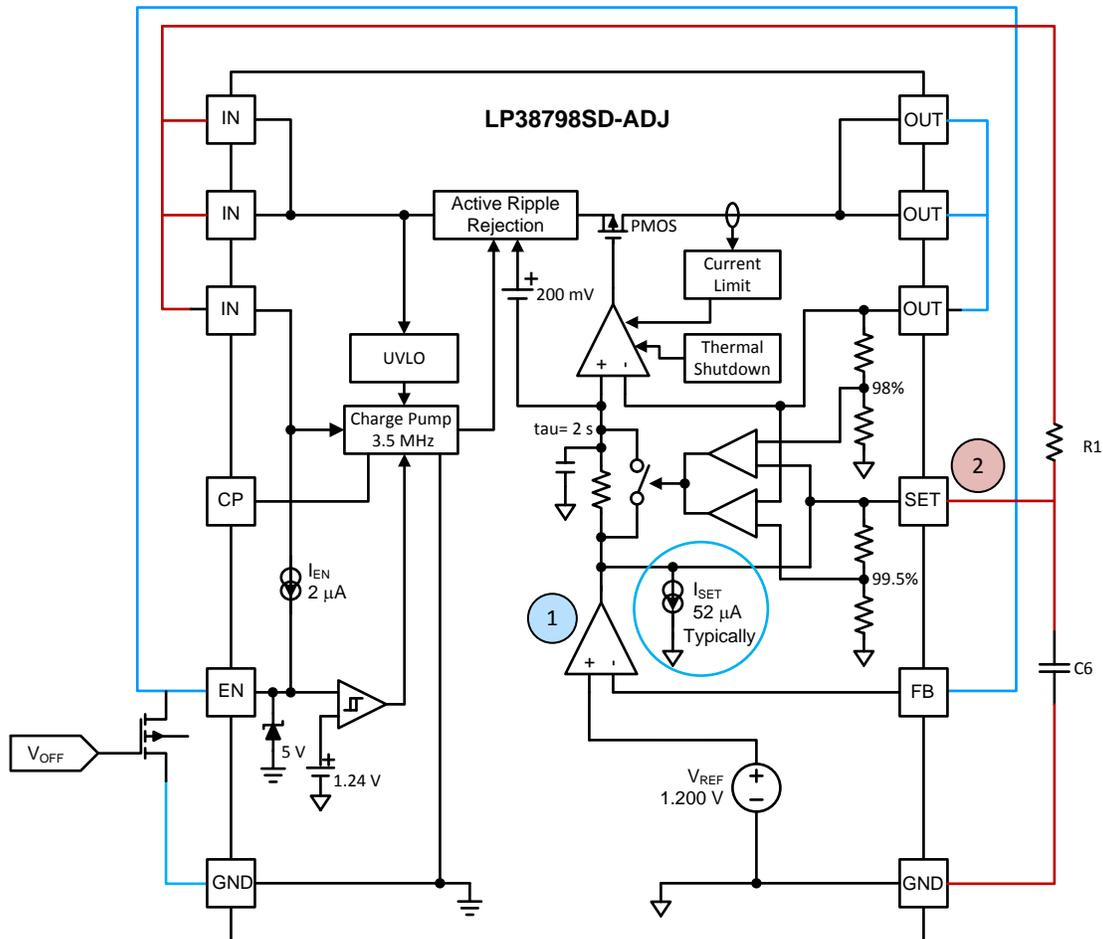

Figure 2. LP38798SD-ADJ Functional Block Diagram
The blue line and red line in Figure 2 represent two connections that must be made to enable the LP38798-ADJ as a voltage follower. The blue connection disables Comparator 1 by connecting the comparator's negative feedback (FB) input to the higher potential of the Enable pin (EN). The red connection sets the required voltage drop (V_{DROP}) for the rail cleaner; V_{DROP} is a function of I_{SET} and R1. Section 4.1 explains how to set the V_{DROP} .